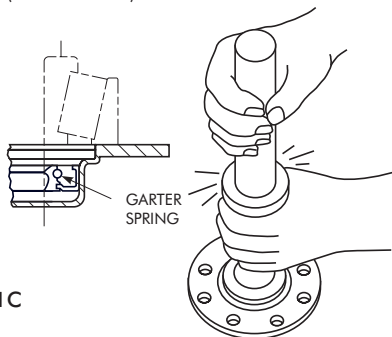

Figure 1C
- E. Figure 1C—Position seal squarely in seal cage with the garter spring towards the bearing. Place a square ended cylindrical tool against the seal and press or lightly tap the tool (not the seal) until the seal is seated in the seal cage.